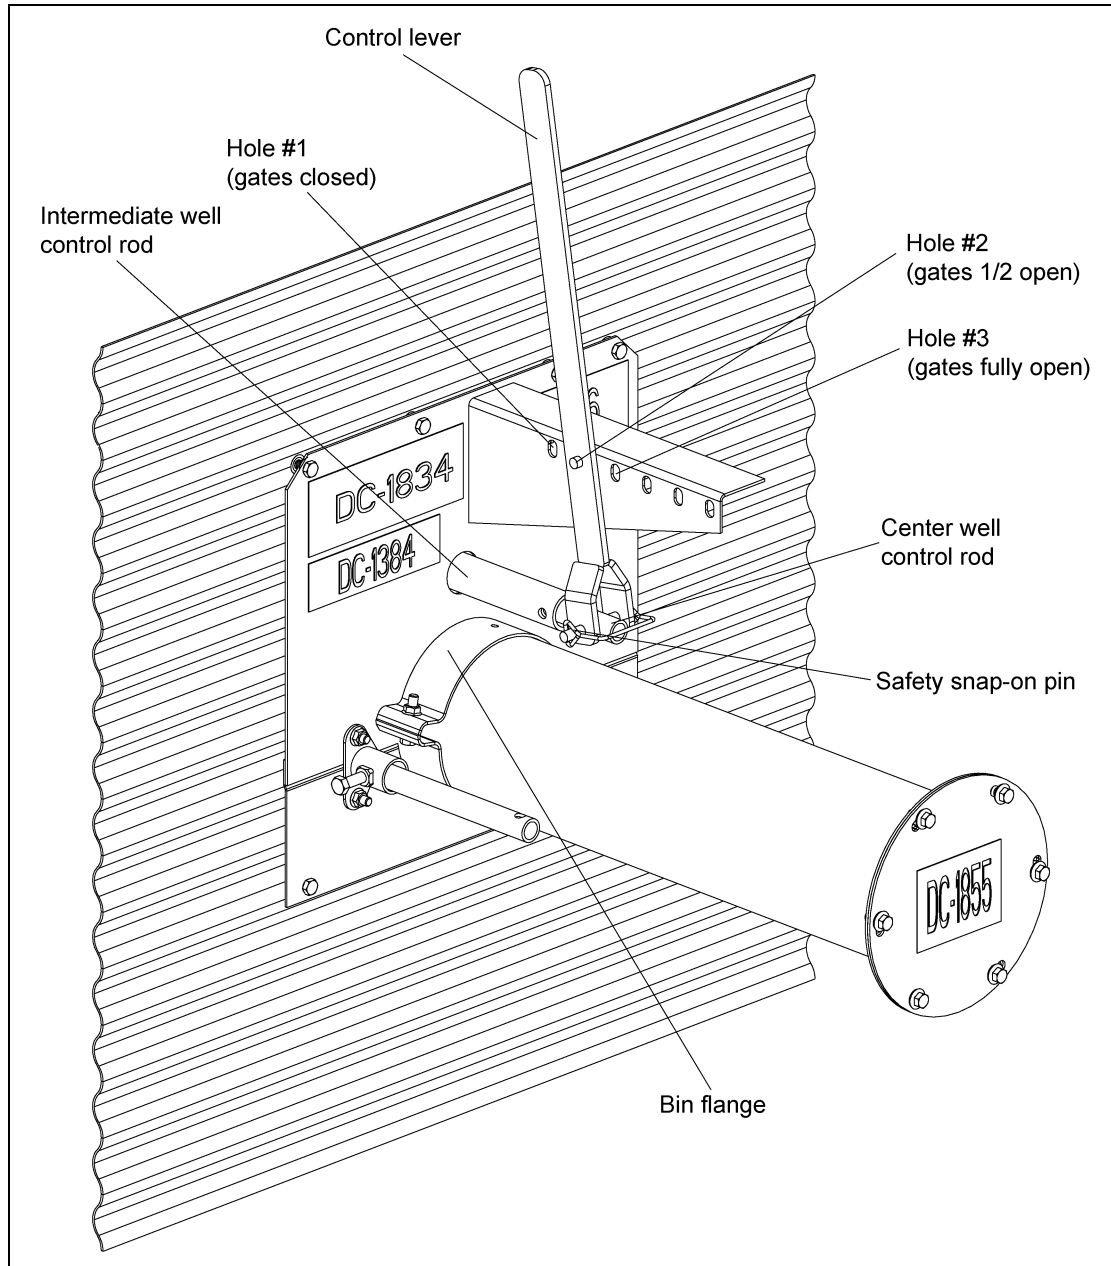

Figure 4M 6" Systems
3. Place the safety snap-on pin through the center well control rod and the control lever as shown in Figure 4M.